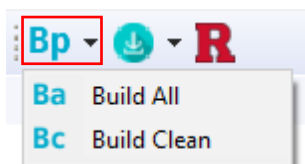

Figure 15: Build Project Options
- Build the project by clicking on "Build All" (Figure 15).